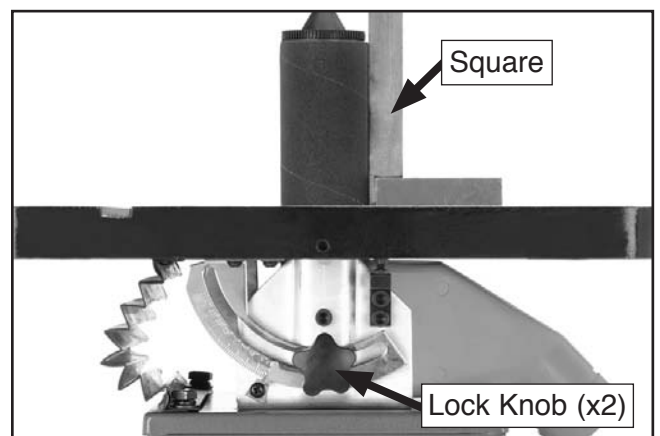

Figure 25. Squaring table to drum.
3. Use a square to set the table perpendicular to the sanding drum, then securely tighten both lock knobs (**Figure 25**).